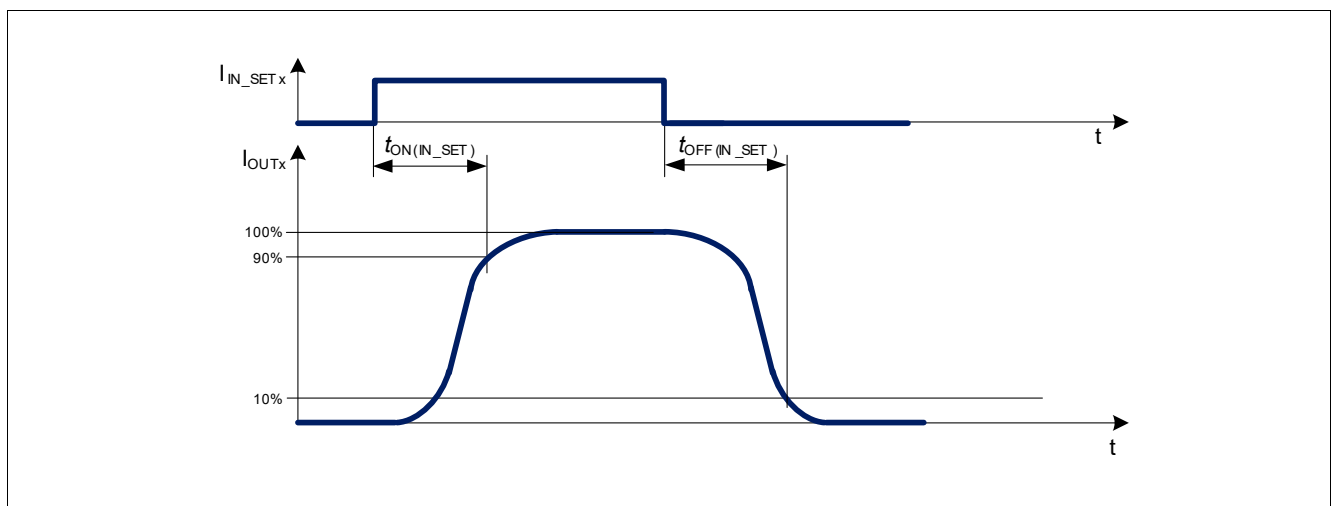
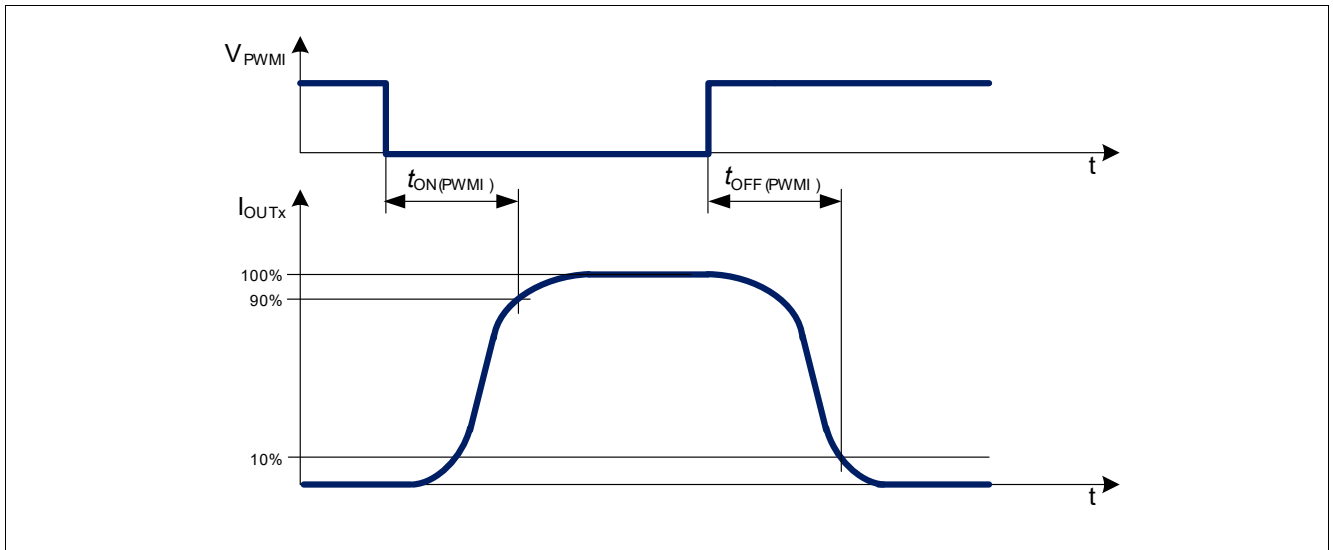

Figure 10 IN\_SET turn on and turn off delay timing diagram
Figure 11 PWM turn on and turn off timing diagram
In the following diagrams (Figure 10, Figure 11) the influences of different driving inputs on output activation delays are shown.
- 2) Refer to Figure 10
- 3) Refer to Figure 11